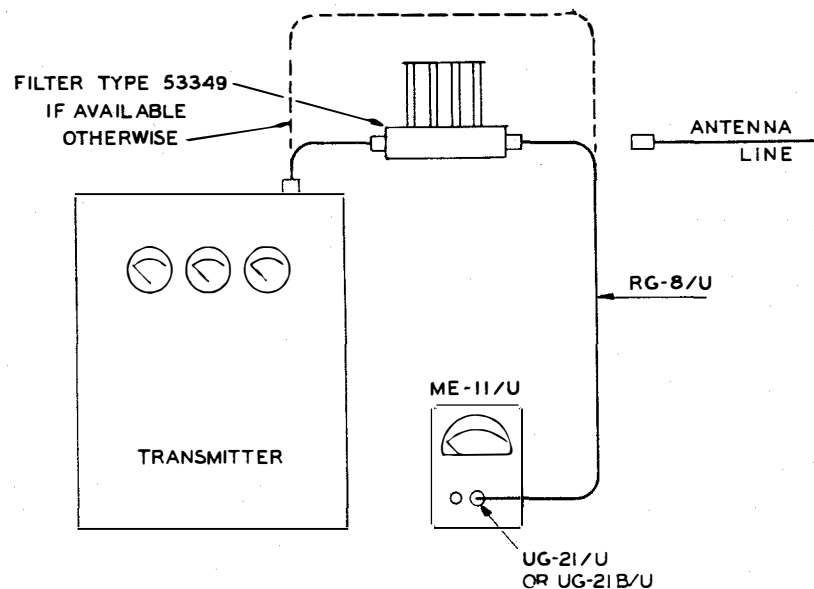

Fig. 4-1. Typical Connections to Transmitter
- c. With the TRANSMITTER OFF, disconnect the antenna line and connect the wattmeter as shown in Fig. 4-1.
(1) The wattmeter is a broad band instrument and its action with presence of harmonics or other spurious frequencies should be considered.
(2) Wattmeter sensitivity decreases with frequency above 500 mc and below 1400 mc. Laboratory and field experience indicate that low order harmonics in this range do not appear to be serious sources of error. However, to avoid measurement error and interference troubles it is highly desirable to eliminate all frequencies except the carrier desired. Such filters as have been provided for interference control (such as Navy Type 53349 for TDZ and MAR) should be installed when employing the wattmeter as shown in Fig. 4-1, 4-2, 4-3.
(3) Above 1400 mc, two sensitivity peaks are present in the wattmeter sensitivity curve. These are approximately 1700 and 2600 mc where resonances occur in